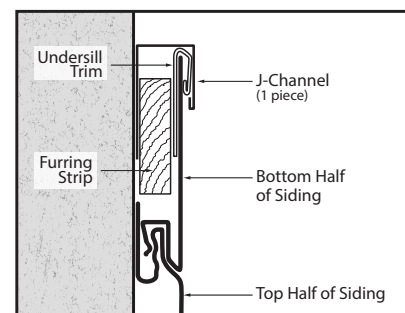

Figure 5.1.3
- If the height of the wall means that your final row of siding is not the full reveal height, install the 2-Piece J-Channel base and 1/2"x1" Furring Strips along the soffit J-Channel in order to support the cut edge of the final Perspectives siding. (See Figure 5.1.3 on page 8)